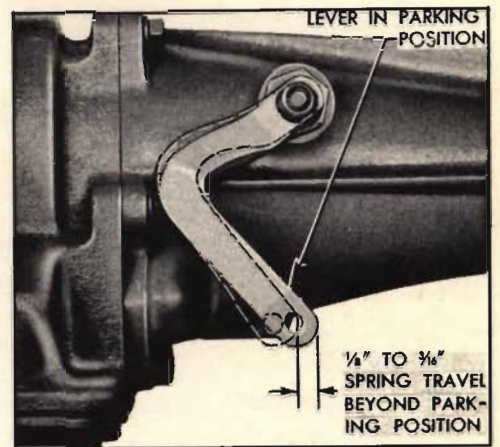

Fig. 3. Spring travel at shift lever
4. Check the spring travel at the lower end of the shift lever by pressing the shift lever forward until a definite stop is felt. This movement should be $1/8''$ to $3/16''$ beyond the Park position (Fig. 3). If the movement is not within the specified limits, the control valve operating rod must be adjusted.